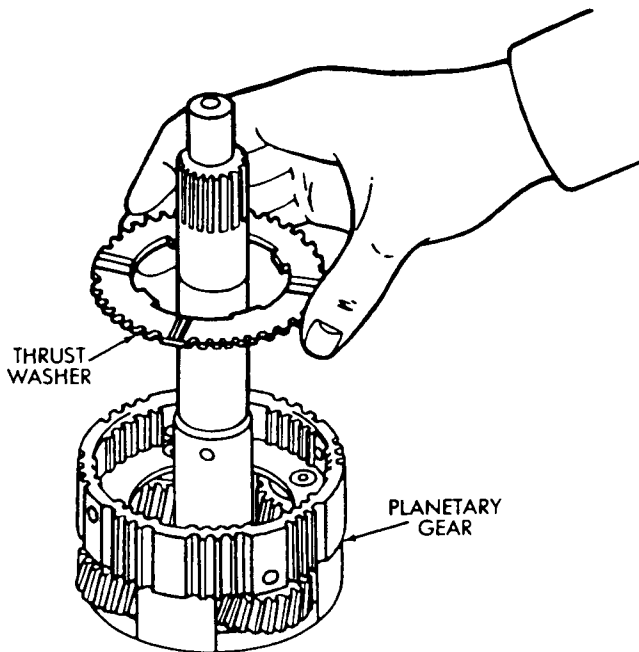

Fig. 15 Removing Planetary Thrust Washer
(16) Remove thrust washer (Fig. 15).
(17) Measure clutch disc thickness. Minimum allowable thickness is 1.84 mm (.0724 in).